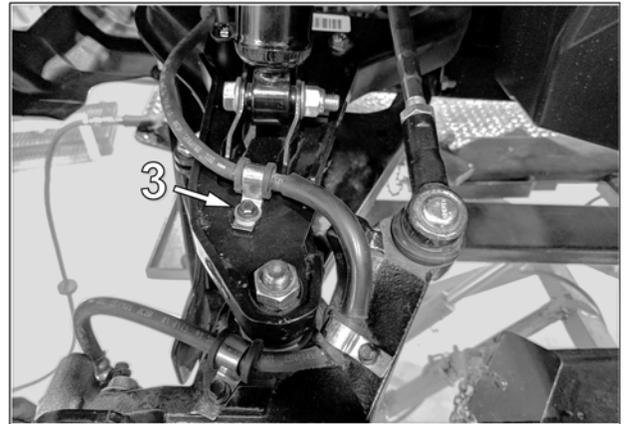

Fig. 21
11. Flip brake hose clamp around 180° and re-install hose clamp bolt (3). See Fig. 21.